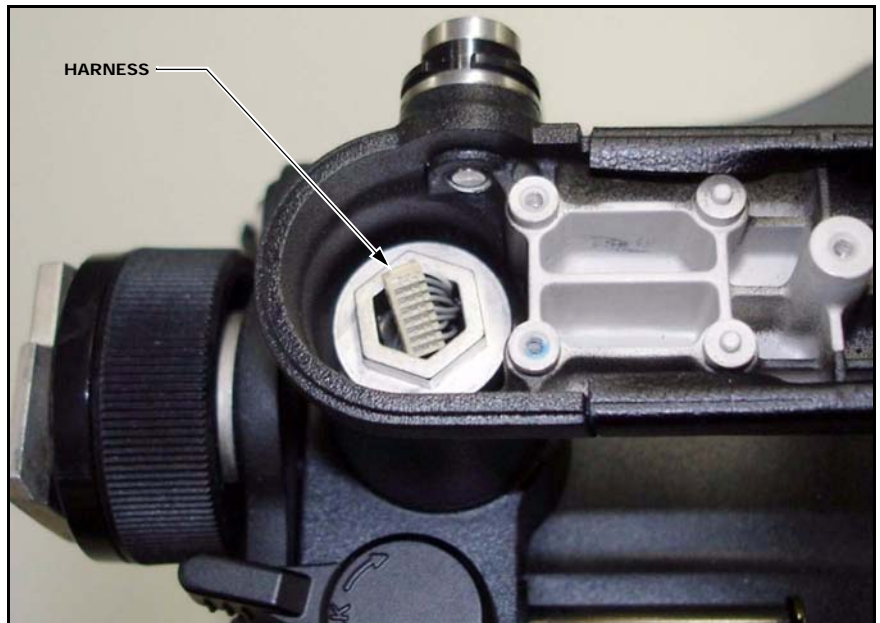

Figure 2
4. Push the harness into the hole of the handle revolving nut as shown in Figure 2.